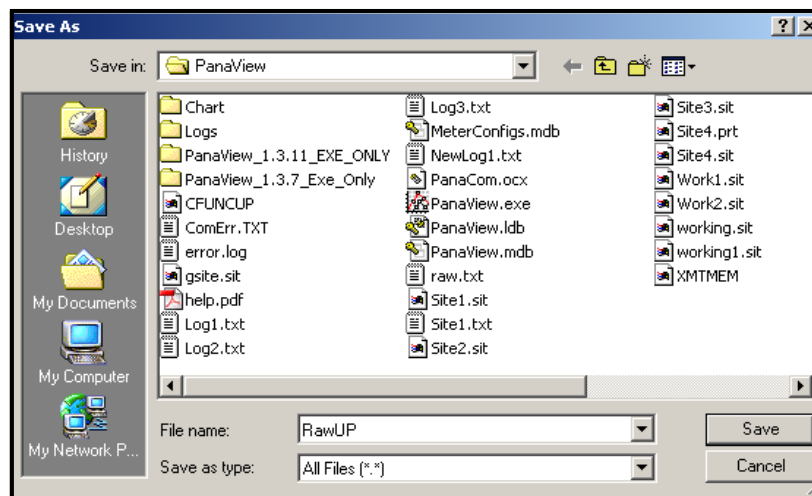

Figure 14: Saving Signal Array Data to File
- If you double-click on *To File*, another window opens similar to *Figure 14*. Enter a file name and click **[Save]**. PanaView stores the array data in a Windows file, and closes the *Calibration/Test* window.
- If you double-click on *To File*, the *Save As* window (similar to *Figure 14* on page 44) opens. Enter a file name and click **[Save]**. PanaView stores the array data in a Windows file, and closes the *Calibration/Test* window.